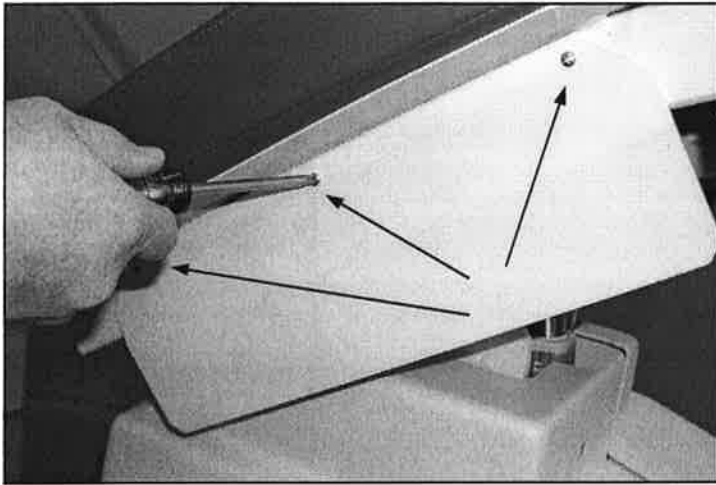
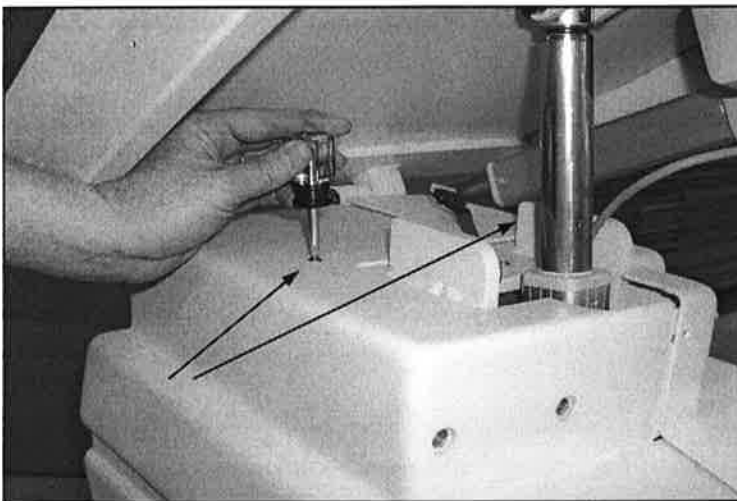
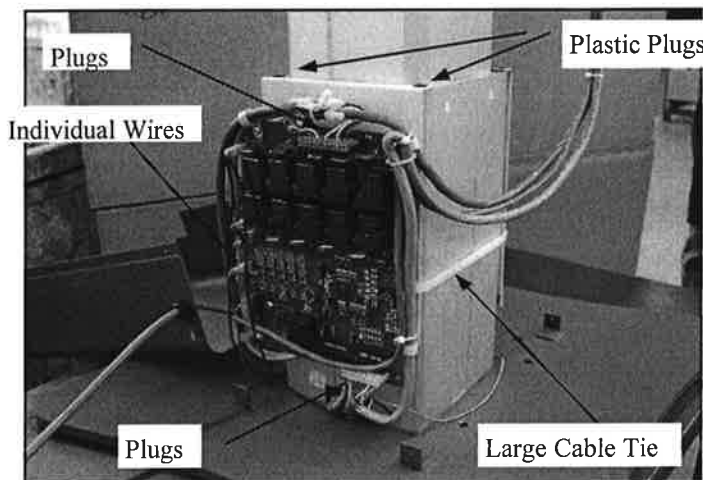

Figure 1
Figure 2
Figure 3
- 9) Release the upward tension of the extension lock, (Figure 1), by pressing down on the knob and lifting the foot section to pivot holes and screws (1st and 2nd) into position for attachment.
- 2) Remove the LH and RH seat side panels and attachment screws, figure 1. Remove the decorative vinyl strip from around the middle of the plastic base cover. With a short phillips screw driver, remove the (3) small flat head phillips screws holding the two base cover halves together on both ends. Remove the single phillips screw from the top surface of both base cover halves, (figure 2), being careful not to let the middle base covers drop. Remove both plastic covers.
- 3) Remove the middle base metal cover halves by removing the (4) phillips screws.
- 4) Remove the (8) phillips screws from the (2) gray colored bottom base cover halves and lay the halves over, one on each side of the base.
- 5) Noting and labeling all the positions of single wires and multi conductor plugs, remove all wires and plugs from the PC board, (figure 3). Using wire cutters, carefully cut the large plastic cable tie. Hold the PC board mounting plate and capacitor/rectifier mounting plate to the side of the lifting column, and with a flat blade screwdriver, pry up the two black plastic plugs holding the corner of each of the mounting brackets on the top of the first section of the lifting column and remove both brackets.